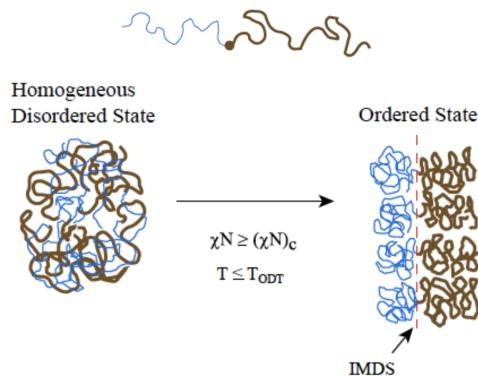

Figure 2.12: Ordering of a diblock copolymer.
- The subscript *c* in Figure 2.12 means “critical.”